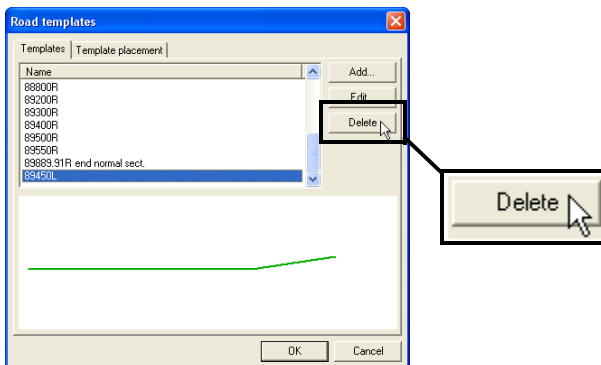

Figure 6-35. Delete Template
1. To delete a template, select the desired template and click **Delete** (Figure 6-35).